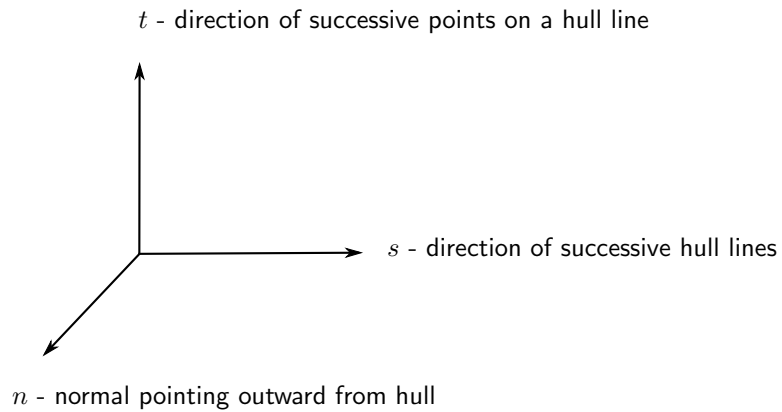

Figure 49: Convention for evaluating surface patch's surface normal.
- ☞ The order in which the hull-lines and their points are defined is important since they define which side of the surface the surface normal resides on. The surface normals should point out. The convention for determining a surface patches surface normal direction can be found in figure 49.